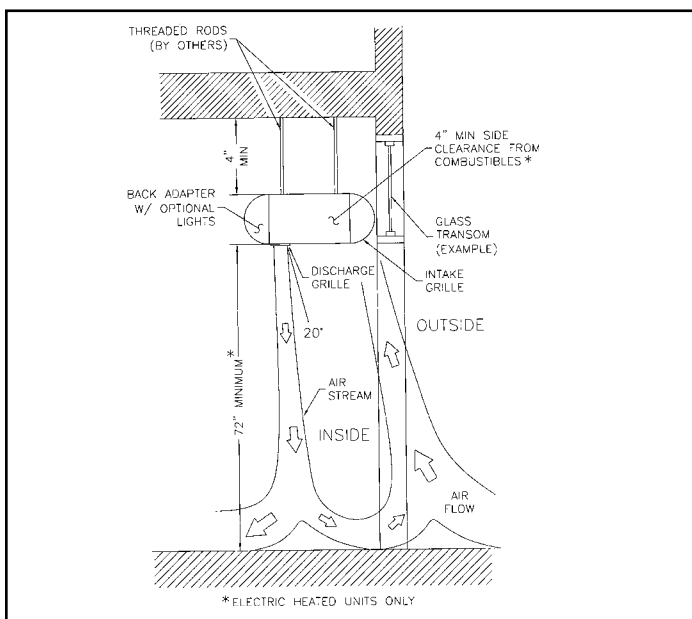

FIGURE 4 - Suspension With Back Adapter Reverse Flow
3. **Figure 4** installation (louvered discharge grille facing interior of the building). A maximum of 6" between the wall and intake grille is required. Install the back adaptor at this time. Follow instructions 2 under Item A.